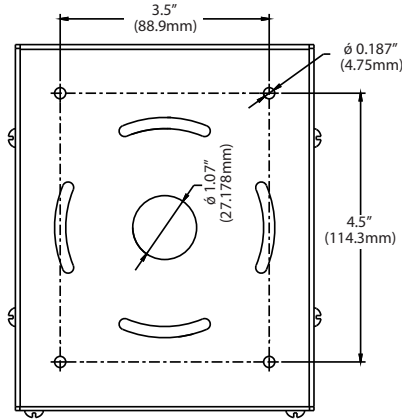

Fig. 4
2. Mount **Pendant Box** to ceiling by drilling out **Drill Out Locations** as shown on **Fig. 4**. Use appropriate mounting hardware suitable for the mounting surface.
3. Slide **Pendant Box** onto **Pendant Box Plate/ Housing** and tighten **Screws (4)**.